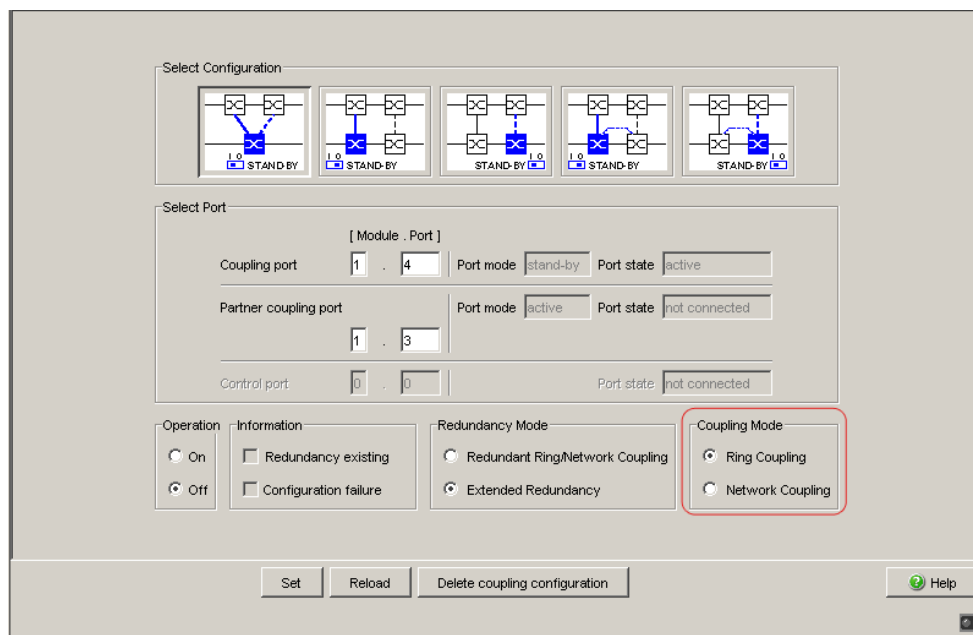

Figure 28: One-Switch coupling: Selecting the coupling mode
- In the “Coupling Mode” frame, select (see figure 28)